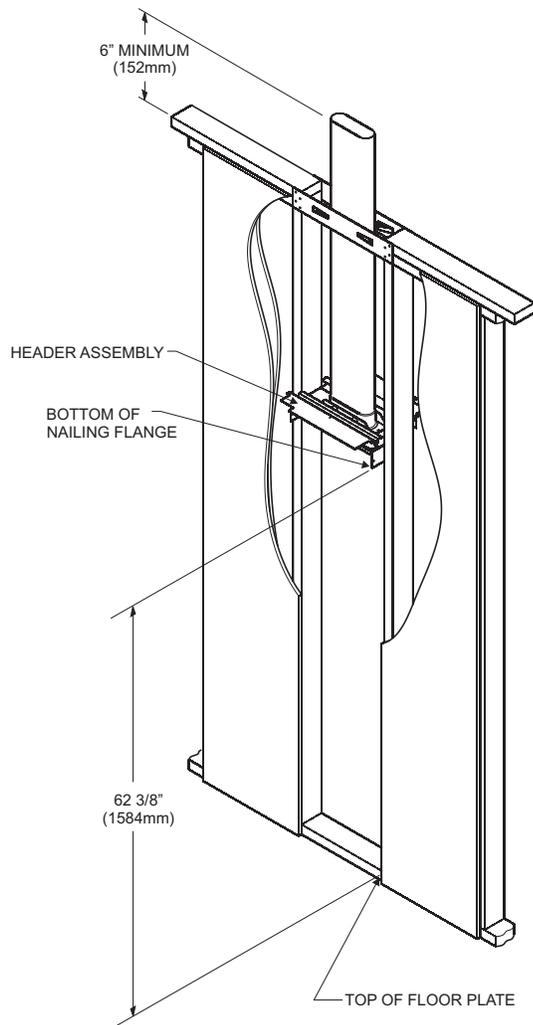

Figure 18
- Position header plate at height shown in Figure 18.
- Secure header plate to the wall studs with four (4) #10 x 1" screws provided or nails.